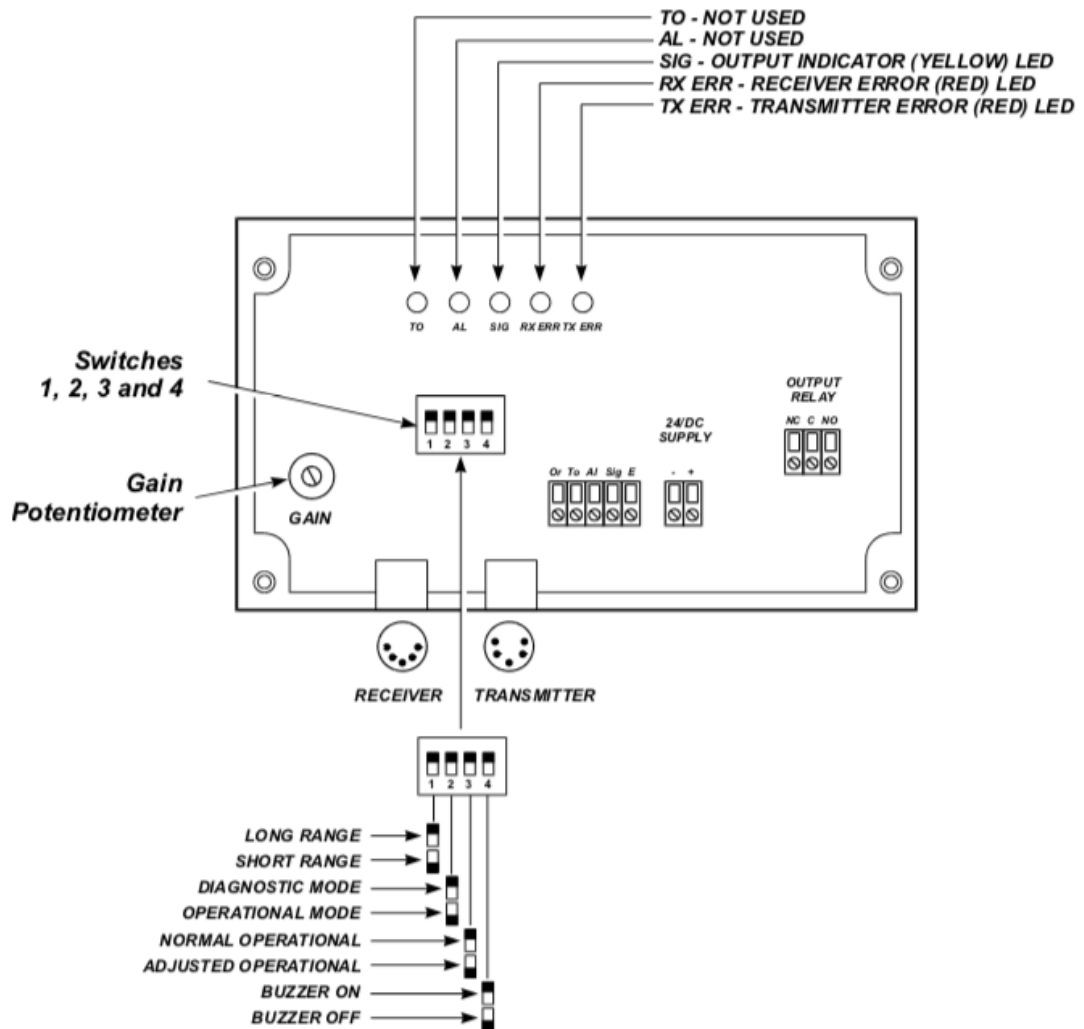

Figure 63: Safety Light Curtain Control Box with lid removed
7. Ensure that Switch 2 (sw2) (Figure 63) is set to **Off** (Operation Mode).
11. Slowly adjust the gain potentiometer (Figure 63) clockwise (to maximum) until the transmitter and receiver can sense each other, for example, the receiver can detect the beam sent from the transmitter.
Switch *sw2* **On** (Diagnostic mode). After approximately 15 seconds the *RX ERR* and *TX ERR* LEDs (Figure 63) will indicate if there is a faulty beam: